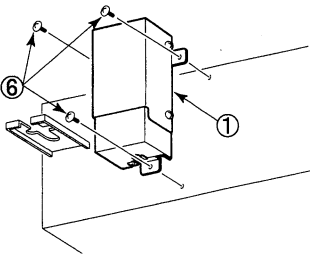

Fig.5
1. Using 3 screws ⑥, fix relay unit ① to the opposite side to the electric parts box of the indoor unit. (Fig.5)